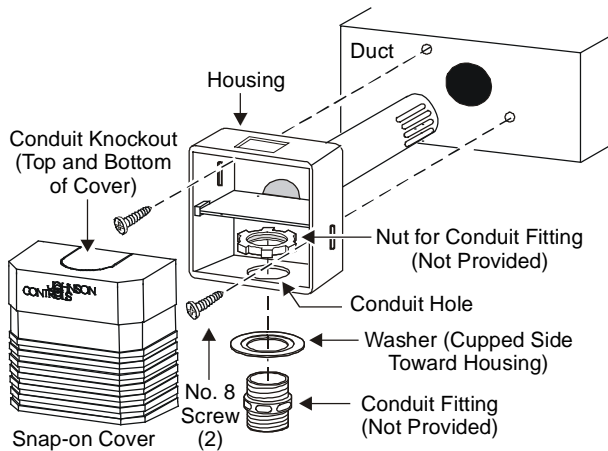

Figure 5: Duct Probe Humidity Element Assembly and Mounting
To mount the duct probe humidity element, refer to Figure 5 and proceed as follows:
2. Break out the appropriate knockout from the cover (shown in Figure 5) with pliers to accommodate the wiring or conduit if used.